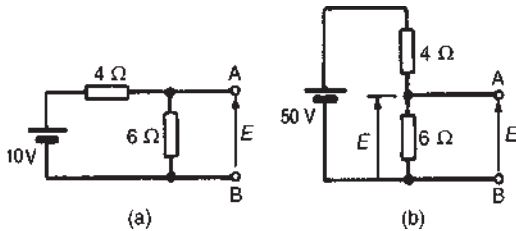

Figure 13.30
- (ii) The open-circuit voltage, E , across terminals AB in Fig. 13.30(a) is the same as the voltage
across the 6Ω resistor. The circuit may be redrawn as shown in Fig. 13.30(b)